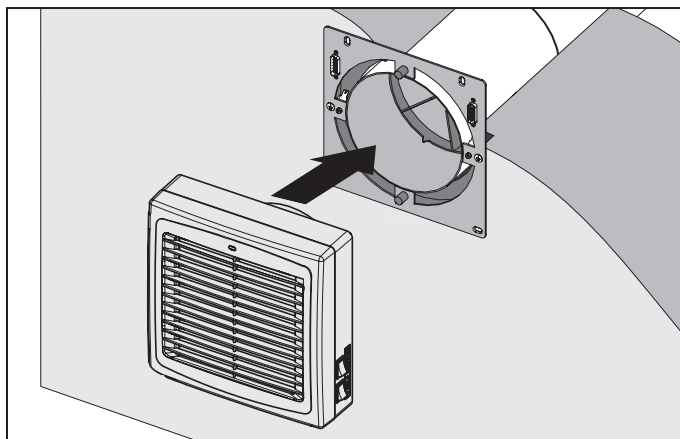

Fig. 12. Ventilation unit mounting
6. Install the ventilation unit on the mounting plate, by simple pressing until it is fixed by magnets, fig. 12.